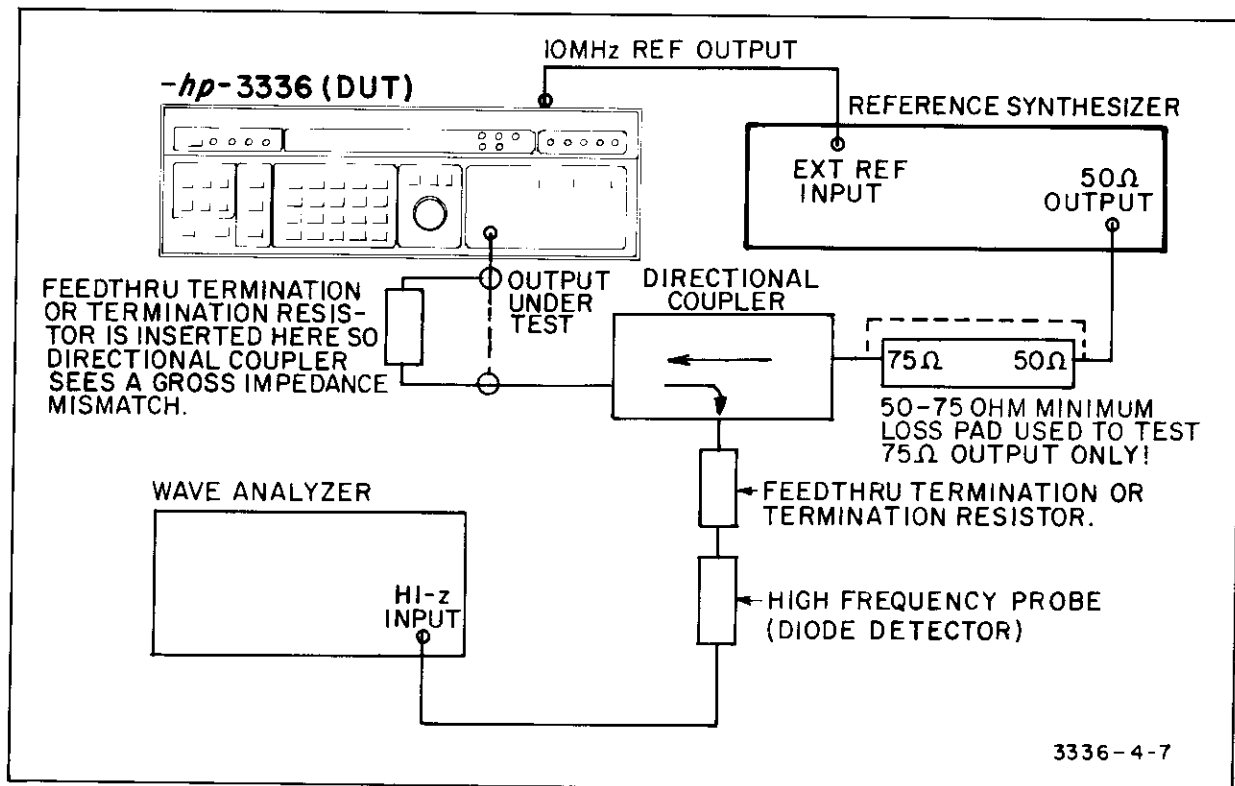

Figure 4-7. On Carrier Return Loss Equipment Set Up.
a. Connect the equipment as shown in Figure 4-7. Use the appropriate impedance Directional Coupler and Termination for the output under test. For example, to test the 124 ohm output, use the 124 ohm Directional Coupler and 124 ohm Termination Resistors. To test the 75 ohm output, use the 75 ohm Direction Coupler and 75 ohm Feedthru Terminations.